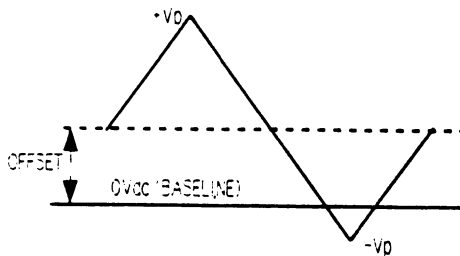

Figure 3-9. Offset Waveform Example
5. Set up the Offset. Use the "OFFSET" key (7) to display the dc offset level. Offset is the waveform reference level relative to 0Vdc; see figure 3-9. Use the Keypad (39) or the Knob (41), if enabled (ENABLE indicator (40) lit), to change the offset. The Knob increments or decrements the value starting with the flashing digit ("KNOB" key (39)) and automatically enters the new value. When using the keypad, enter values as actual number (0.01) or exponential notation (10E-3), press the "ENTER" key to accept the new value. Offset values range from +7.500V to -7.500V.